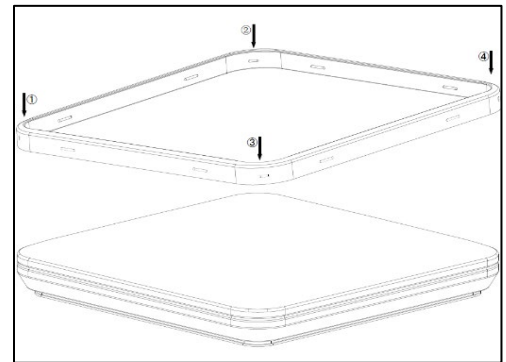

Figure 6
2. Install the black decorative trim ring from bottom of the diffuser starting from 1 corner, then snap the other corners in place to fully secure the deco trim onto the diffuser. (See Figure 6).